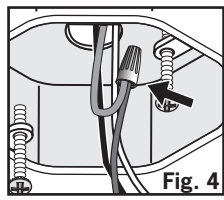

Fig. 4
- 3 For safety and proper operation, your fixture must be properly grounded (Fig. 4). If you are unfamiliar with the methods of properly grounding your fixture, consult a qualified electrician. A green or bare copper ground wire is pre-attached to your fixture pan (C). If your electrical box is plastic and has a green or bare copper grounding wire inside, the bare end of the fixture grounding wire must be secured to the green grounding wire inside your electrical box using one of the small wire nuts (D). If your electrical box is metal and contains no ground wire as part of a grounded electrical system, see #5, as the metal chassis will be grounded via the electrical box mounting screws.
- While holding the diffuser in the palms of your hands, reattach it by applying sufficient pressure onto the glass in order to rotate it clockwise until it locks on the pan (**Fig. 4**). This will take approximately 1/4 turn. Make sure the diffuser is fully screwed onto the pan before releasing the diffuser with your hands. Restore power to the fixture.